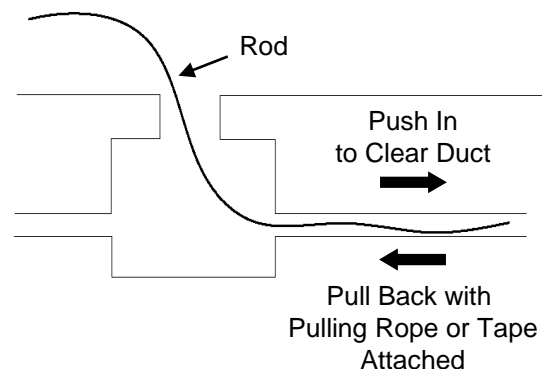

Figure 14
15.1.2 Attach pulling rope to front end of rod and pull rod and rope back through and out of duct entrance. **See Fig. 14.**